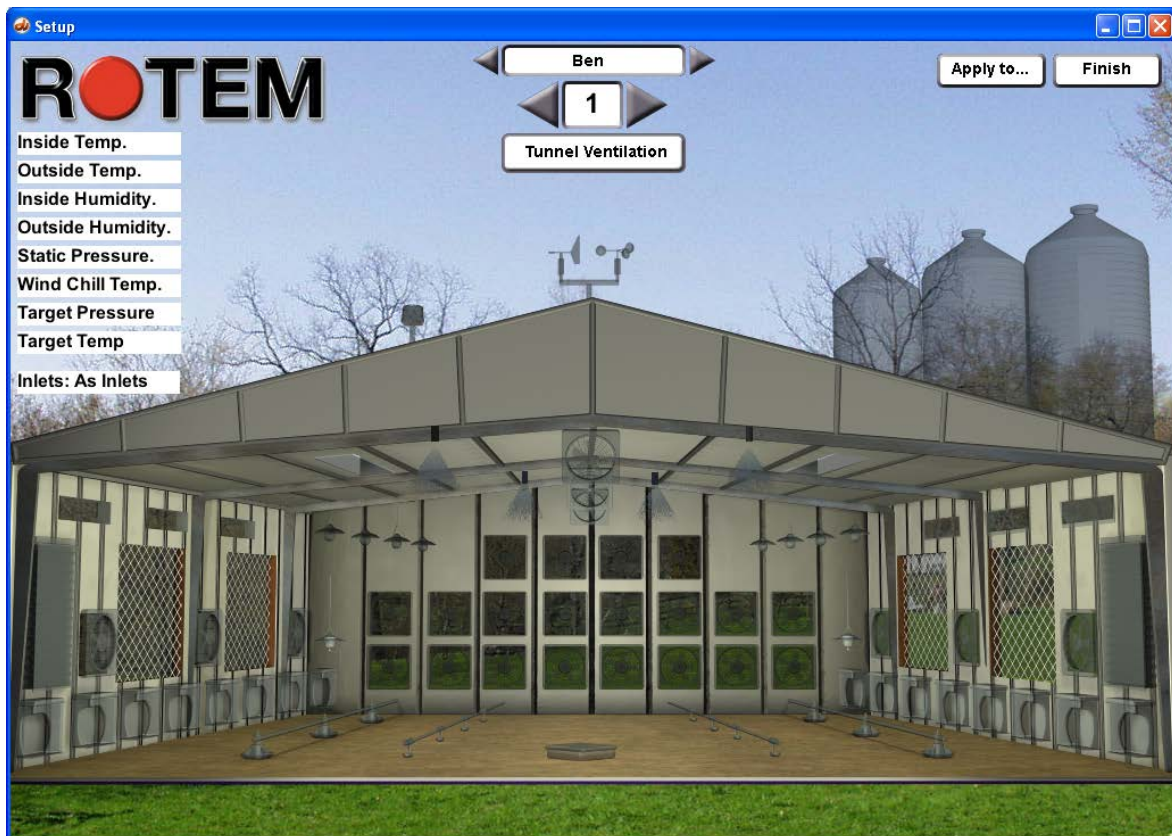
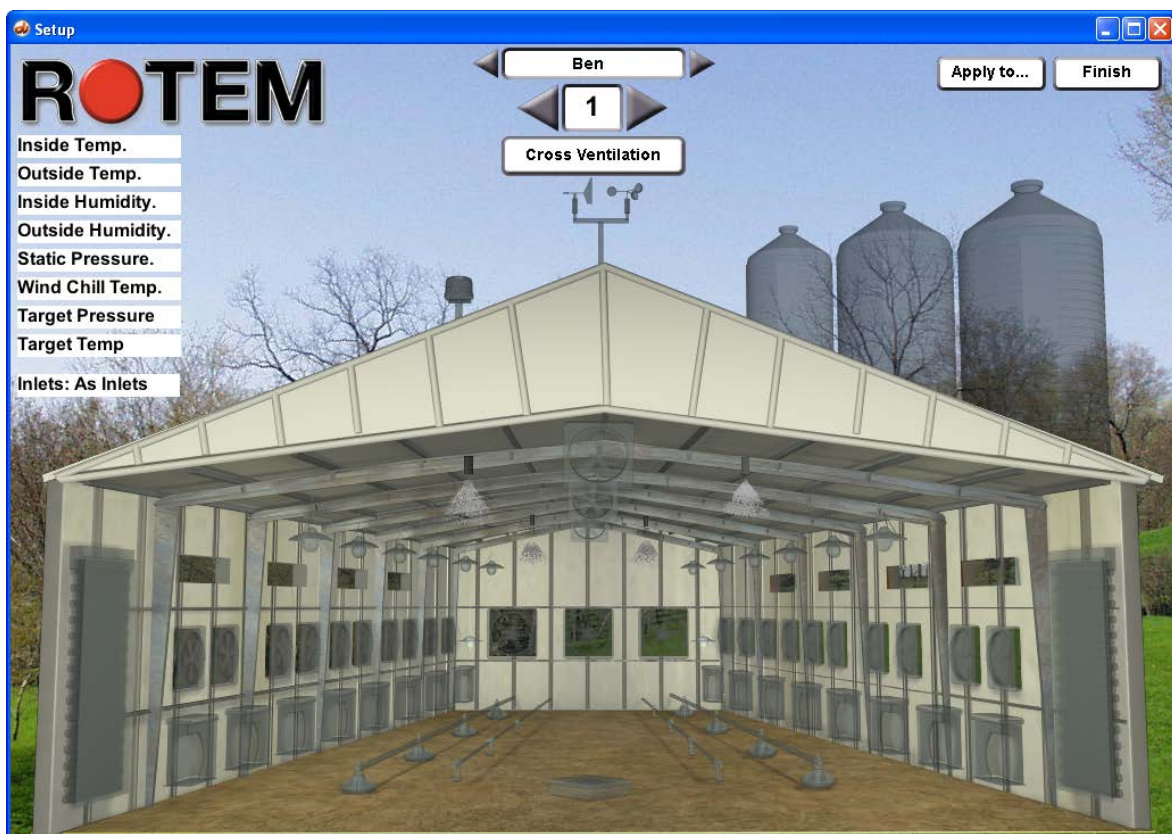

Figure 52: Ventilation Screen
Figure 53: Cross Ventilation Screen
Figure 52 appears.
4. **Tunnel Ventilation/Cross Ventilation:** Figure 52 displays a barn using tunnel ventilation. If your barn uses cross ventilation, click **Tunnel Ventilation**. The Cross Ventilation screen appears (Figure 53).